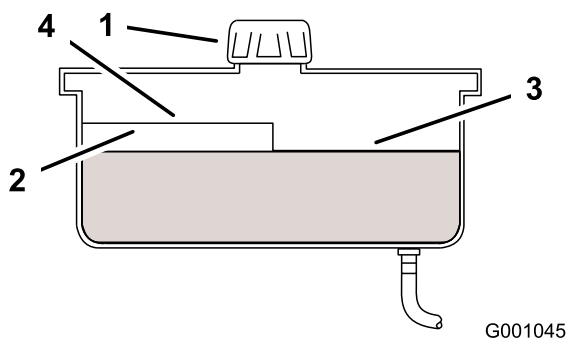

Figure 49
4. Clean area around cap and filler neck of hydraulic tank (Figure 49).
5. Remove cap from filler neck. Look inside to check if there is fluid in the reservoir. (Figure 49).
Note: When the fluid is warm, the fluid level is at the top of the hot level of the baffle (Figure 49).